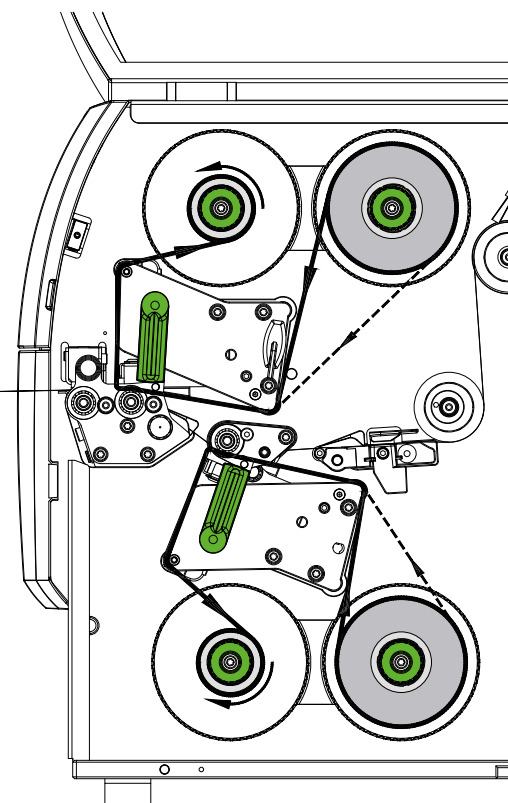

Figure 18 Transfer ribbon feed path
2. Turn the lever (6) counterclockwise to lift the upper printhead.
3. Slide a ribbon roll (1) onto the ribbon supply hub (3) so that the color coating of the ribbon faces downward when being unwound.
4. Position the ribbon roll (1) in such a way that both ends of the roll show identical scale values.
5. Hold ribbon roll (1) firmly and turn knob (3) on ribbon supply hub counterclockwise until the ribbon roll is secured.
6. Slide suitable ribbon core (4) onto the ribbon take-up hub (5). Position and secure it in the same way like the supply roll.
7. Guide ribbon through the print unit as shown in Figure 18.
8. Secure starting end of ribbon to middle of the ribbon core (4) with adhesive tape. Ensure counterclockwise rotation direction of the ribbon take-up hub.
9. Turn ribbon take-up hub (5) counterclockwise to smooth out the feed path of the ribbon.
10. Turn lever (6) clockwise to lock the printhead.
11. Open the flap (8) and load ribbon to the lower print unit (7) in a similar way. All previous statements of direction apply contrariwise excepting the turning of the knobs.